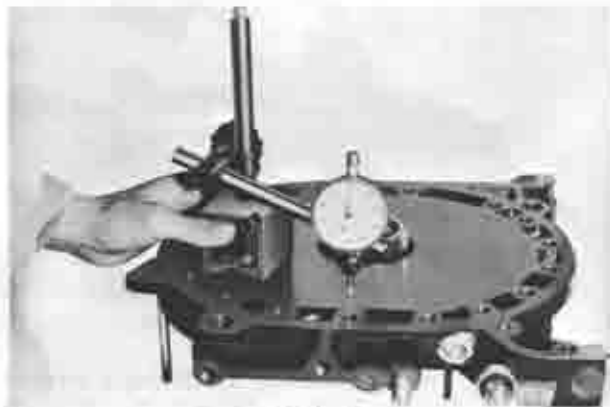

Fig. 1-28 Checking wear.
4. Check for wear on the rotor sliding surfaces of the housing and joint surfaces with rotor housing as shown in Fig. 1-28.